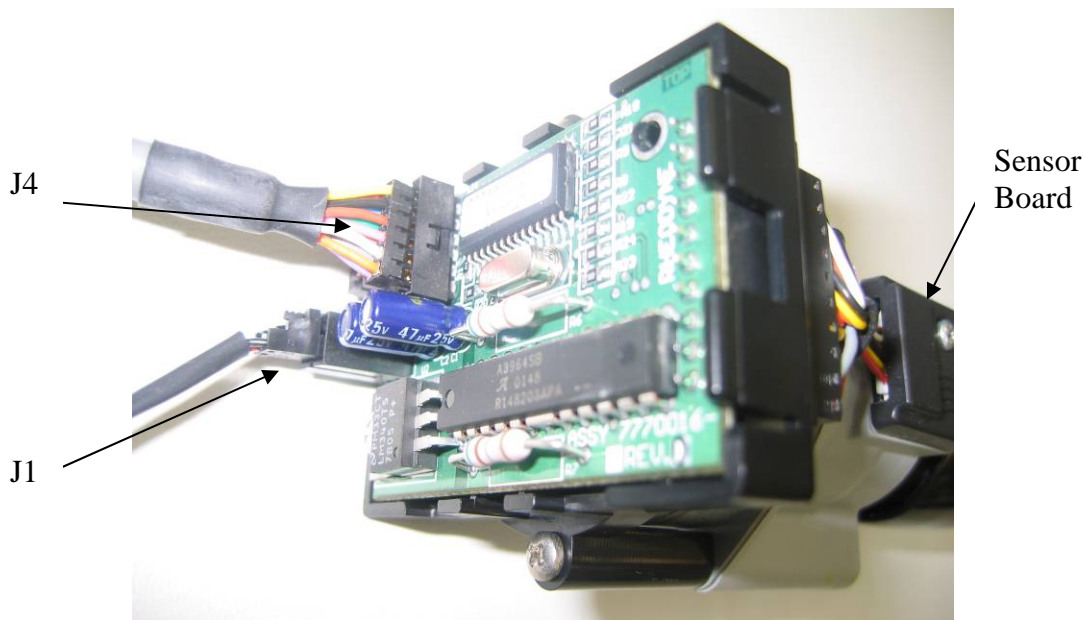
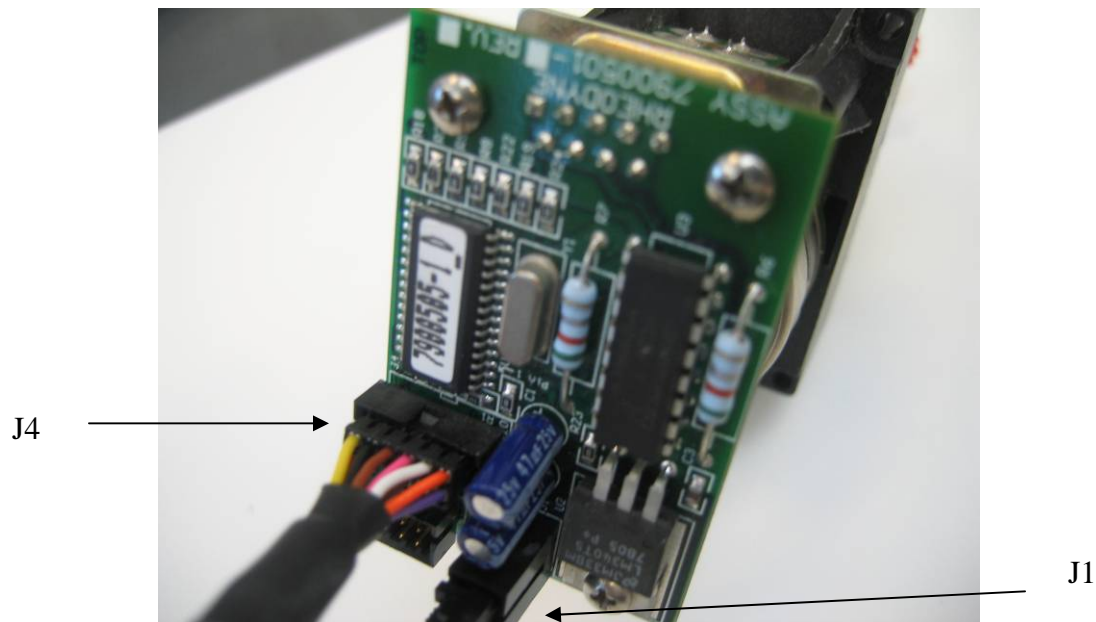

Fig. 2. Driver Board, Control Cable and Power Supply Connections for the TitanEX/HP PCB.
Fig. 3 Driver Board, Control Cable and Power Supply Connections for the Mighty Valve (PCB) Driver Board shown for reference.
For 24VDC power to TitanEX/HP PCB 7770016 or Mighty Valve (MV) PCB 7900501, connect the 2-pin connector of the Adapter Cable (P/N 7900-901) to J1 on the Driver Board (TitanEX/HP Fig. 2, MV Fig. 3). Plug the male-barrel connector of the Universal Power Supply to the female-barrel connector of the adapter cable. Plug the IEC 320 connector of the AC power line cord into the power supply body (brick). Plug the opposite end of the power line cord into a properly grounded power source (When ready to apply power!).